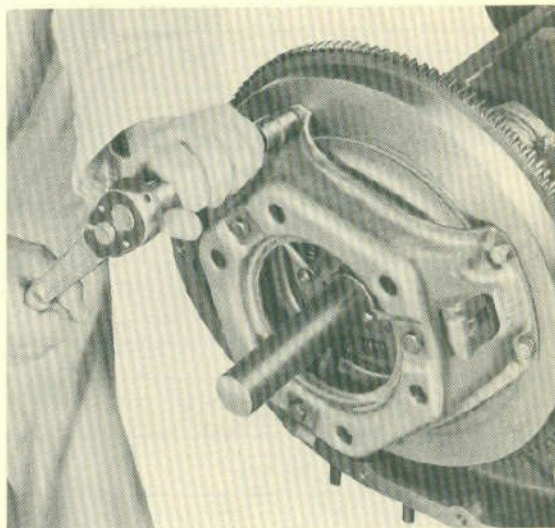

Fig. 8
- b. Align the clutch plate by inserting the stub clutch shaft as shown in Figure 8.